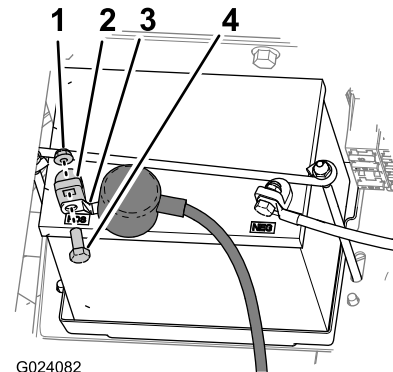

Figure 2
4. Slide back the insulator cover and remove the bolt and nut that secures the terminal of the positive battery cable to the positive post of the battery (Figure 2).